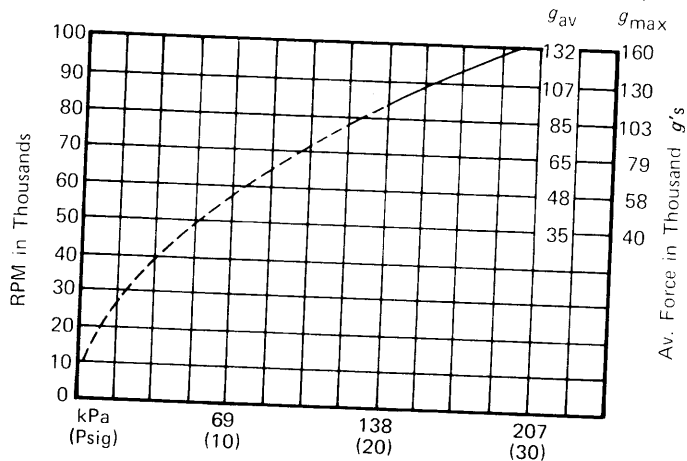

Figure 3-1. Rotor Speed Vs. Air Pressure
4. Continue turning until the rotor starts spinning and air pressure comes up to the level for the desired run speed (see nomogram, Figure 3-1). Note that a slight amount of precession is normal at the beginning and end of the run. A whistling noise is also normal during acceleration.